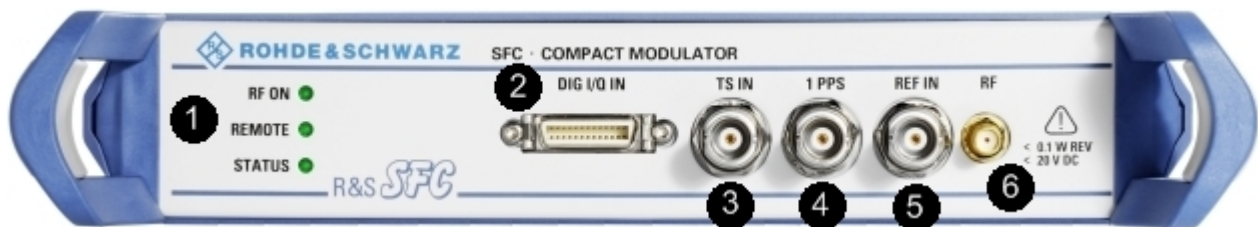

Fig. 3-1: Front panel view
See (1) in figure 3-1.
See (6) in figure 3-1.